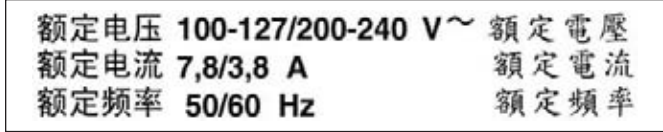

Figure 1: Product rating information shown with required translations of test into simplified Chinese and traditional Chinese
- c) Translations: For certain categories of products, specific information on the label needs to be translated. Figure 1 is an example where both simplified and traditional Chinese text are included, to meet requirements for China and for Taiwan.